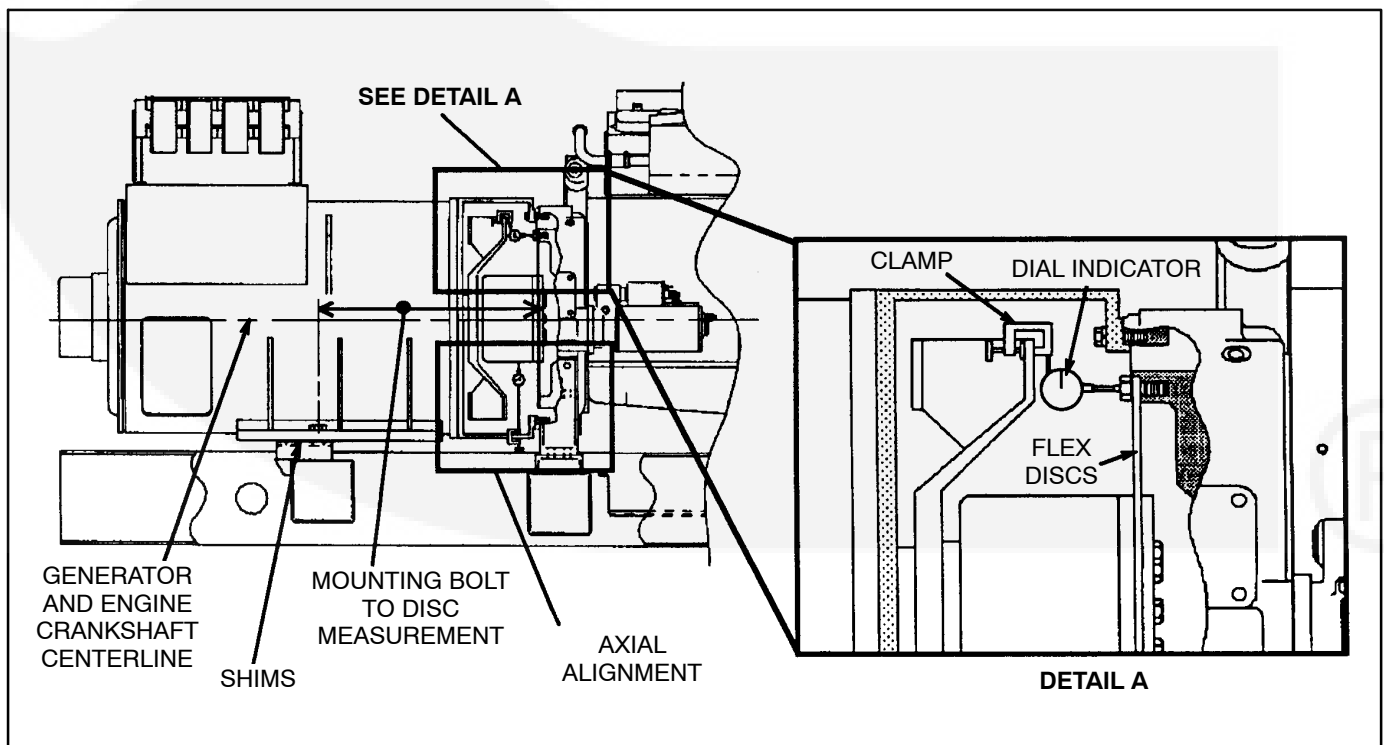

FIGURE 3-4. ANGULAR ALIGNMENT MEASUREMENT
Fasten a dial indicator to either the generator shaft or the cooling fan with the sensing point resting on the capscREW head or the flat surface of the drive disc at the bolt circle diameter, see Figure 3-4. Bar the engine over in a clockwise rotation as viewed from engine flywheel. Do not allow it to roll back on compression at the end of the travel of each reading. It is unnecessary to zero the indicator since the total indicator reading (T.I.R.) of the deflection measurement to the bolt heads is what is required. T.I.R. will be the sum of the maximum positive and negative dial indicator readings as the engine completes one revolution.
2. Measure the distance from the generator side of the flex discs to the center of the generator mounting bolt, refer to Figure 3-4. (For example; a HC6 Frame's distance is 28.4".)